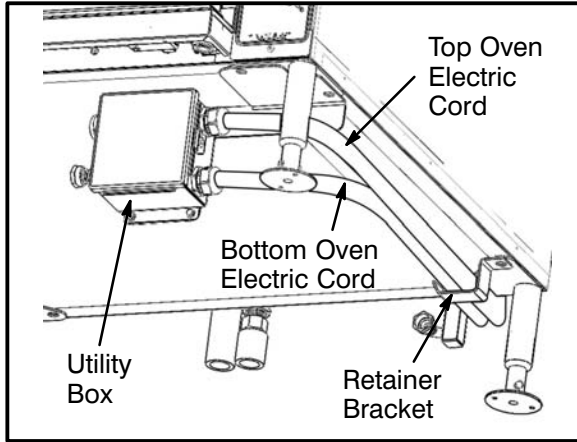

Figure 8
3. Then route the cord under the oven, supporting it on the retainer bracket on the rear right leg. Connect to the top right receptacle on the utility box at the front of the oven. See Figure 8.
5. Then route the cord under the oven, supporting it on the retainer bracket on the rear right leg. Connect to the bottom right receptacle on the utility box at the front of the oven. See Figure 8.